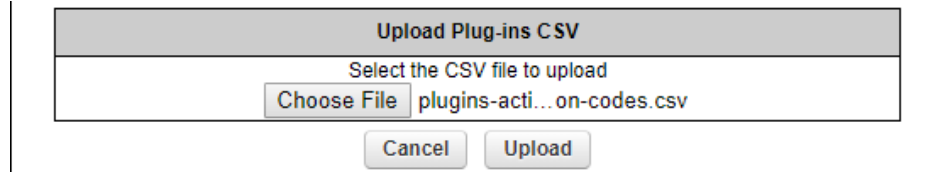

Figure 55. MANAGE PLUG-INS DIALOG (Upload Plug-ins CSV section)
7. Upload the *.CSV file to the unit by clicking the **Choose File** button in the **Upload Plug-ins CSV** section (Figure 55 (page 111)) and following the software prompts.